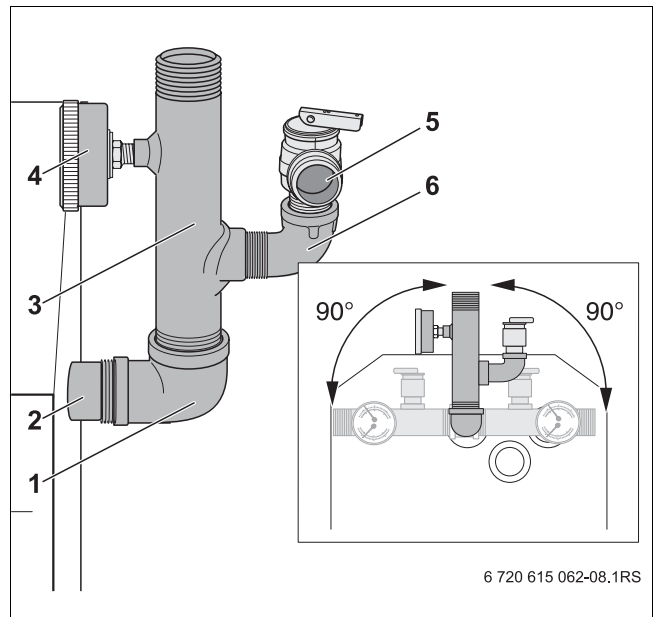

Fig. 16 B-Kit Installation
- Install supply manifold into elbow and orient in desired direction (Fig. 16).
- Seal off connection for safety valve (→ Fig. 16, page 24) and all other unused connections with plugs.
- Fit the safety valve (→ Fig. 16, page 24).